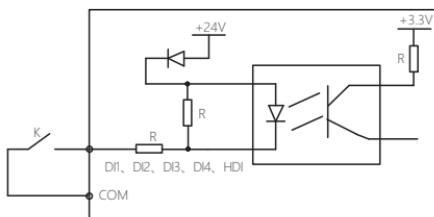

Figure 5-7 Connection method using internal +24V power
a) COM is the common terminal for DI1~DI4 and HDI. It is connected to +24V. The typical external connection method for DI1~DI4 and HDI is shown in Figure 5-7 and 5-8: